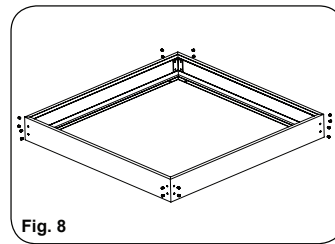

Fig. 8
1. Assemble the mounting frame with the screws and the connection plate. (Fig. 8)